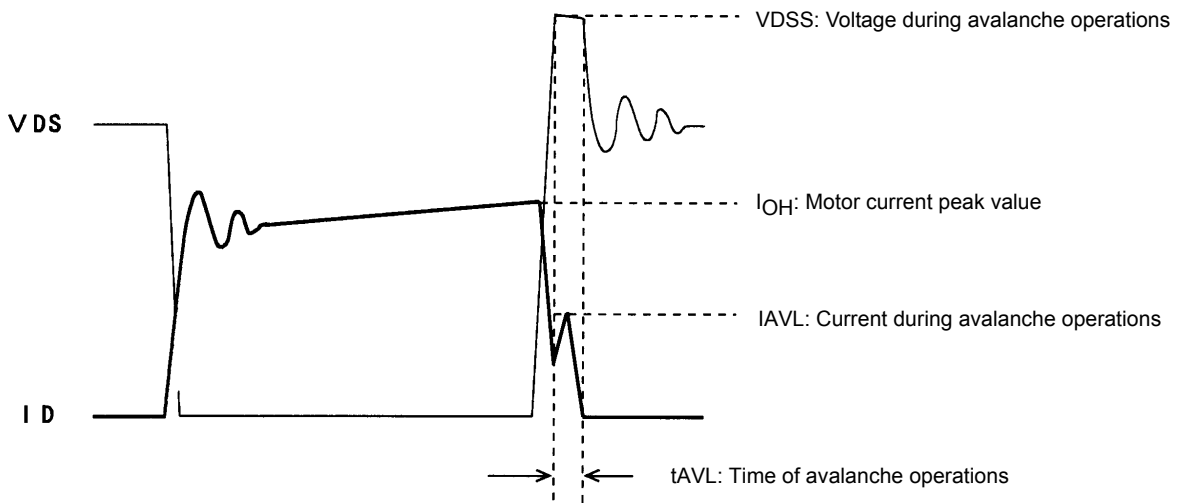

Figure 1. Output Current, I_D , and Voltage, V_{DS} , Waveforms 1 of the STK672-7** Series when Driving a 2-Phase Motor with Constant Current Chopping
When driving a 2-phase Stepper motor with constant current chopping using an STK672-7** Series IPM, the waveforms shown in Figure 1 below result for the output current, I_D , and voltage, V_{DS} .
Although the waveforms during avalanche mode are given in Figure 1, sometimes an avalanche does not result during actual operations.
- Increases in V_{DSS} , t_{AVL} , and I_{AVL} in Figure 1 due to an increase in the supply voltage from 24 V to 36 V.
If the factors above are negligible, the waveforms shown in Figure 1 become waveforms without avalanche as shown in Figure 2.